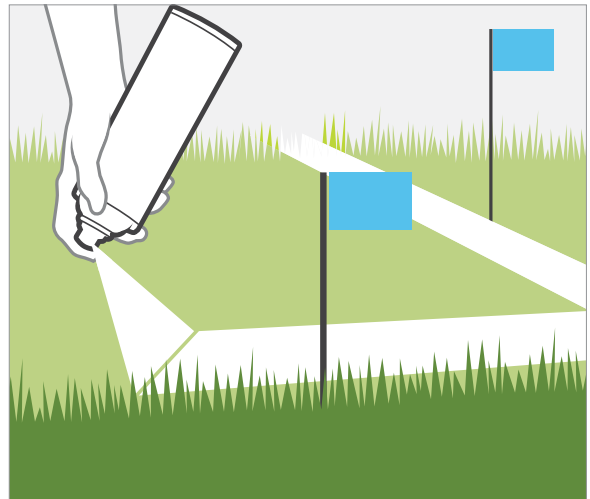

Figure 1
1. Using marking spray paint and small flags, indicate the pipe lines from the P.O.C. to the valve manifold locations. Mark the layout of the irrigation system (*Figure 1*).